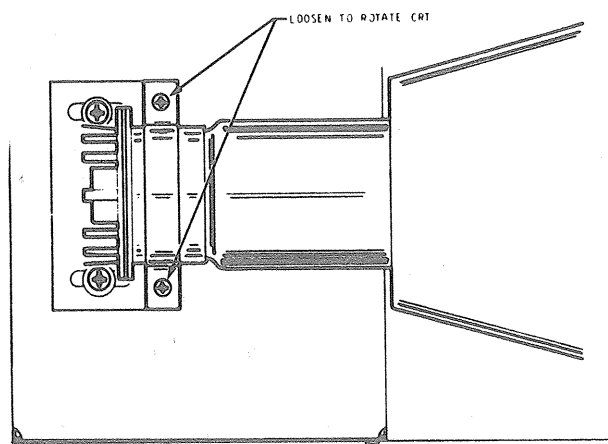

Figure 54.
2. Loosen the screws in the mounting clamps over the neck of the CRT. (See Figure 54).